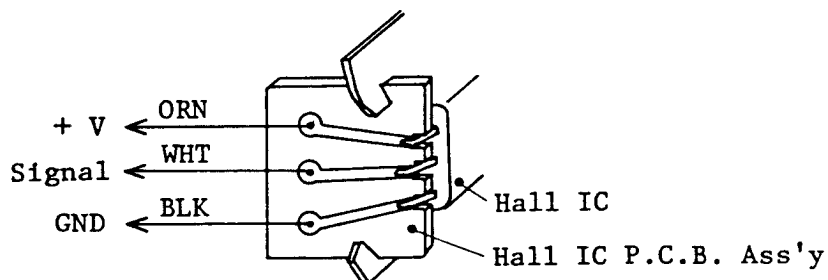

Fig. 1
- g. Assemble the new Counter Holder Ass'y (Hall IC system: CA03305A) by mounting 2 screws, 7 signal wires and 1 belt. The signal wires disconnected from the Reed Switch and one additional ORN wire should be connected with the Hall IC P.C.B. Ass'y as shown in Fig. 1.